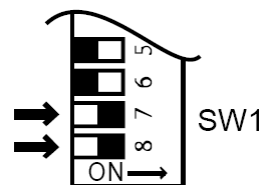

Fig. 5
13. Set the Rinnai Infinity to '**Forced High**' combustion by setting No.7 and No.8 dipswitches to 'ON' (Fig.5). Ensure maximum water flow.